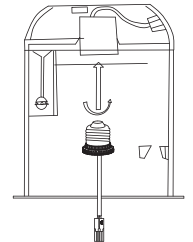

Figure 1
- STEP2:** Screw E26 socket adapter into socket in housing. (Figure 1)